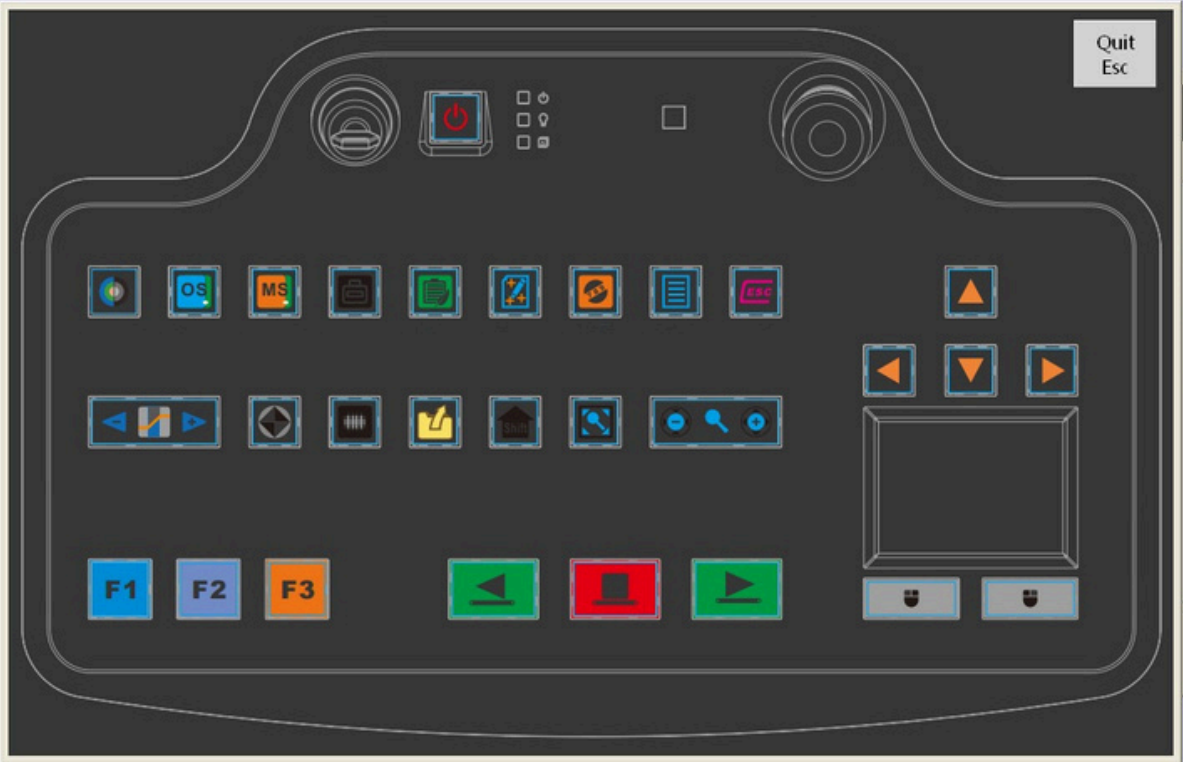

Fig 6.28 Diagnosis Interface of Special Keyboard
- b. When you click the buttons on the multifunction keyboard, the corresponding button on the software interface will be on. During the test, you should repeatedly test each button for 6-10 times and observe whether the key on the keyboard is pressed or up normally and the corresponding button is on timely and smoothly. The test results are as shown in Fig 6.28.